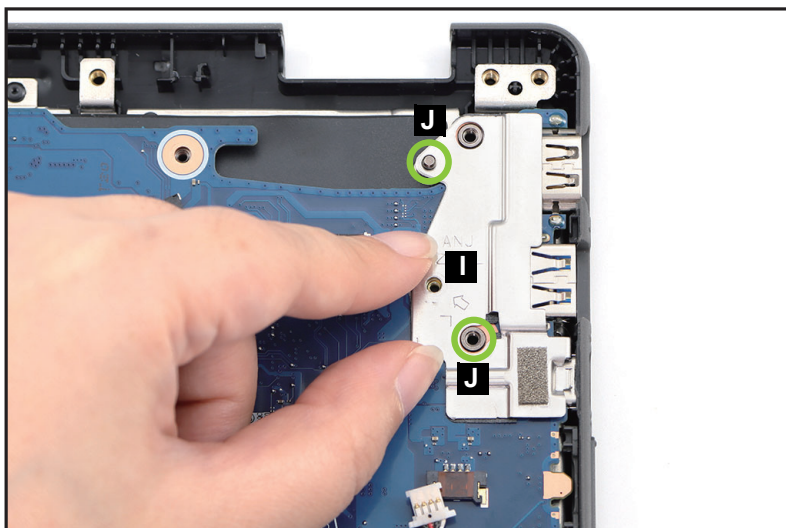

Figure 1-25. Mainboard Removal
15. Release the I/O bracket (I) from the guide pins (J) on the top assembly (Figure 1-25). Then remove the I/O bracket.